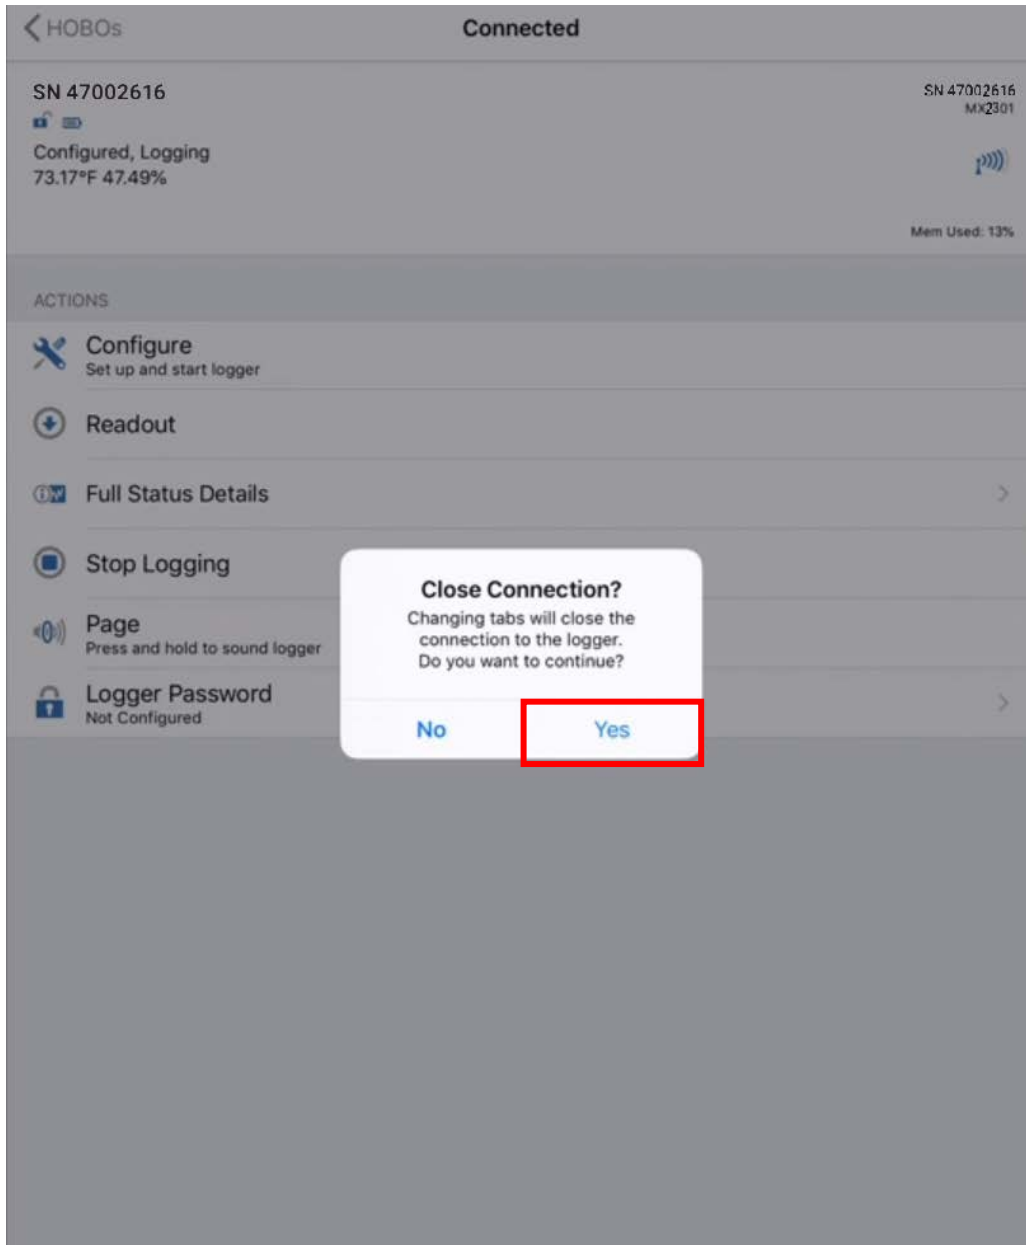

Figure A.7.16: The “Close Connection?” pop-up window.
3. After selecting the “Data Files” option, the “Close Connection?” pop-up window will show on the screen as shown on Figure A.7.16. Tap “Yes” to proceed. After performing this step, the MX2301 Data Logger can be removed from the site.